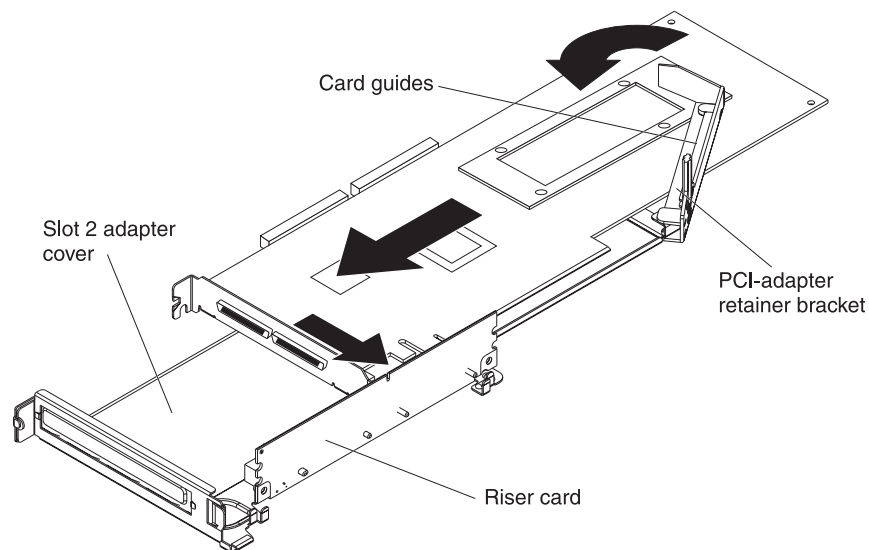

Figure 22. Riser card and adapter cover removal
3. Lift up and remove the slot 2 adapter cover. The slot 2 riser card is attached to the adapter cover, and you remove the riser card along with the adapter cover. Figure 22 identifies the components that are referred to in this procedure.